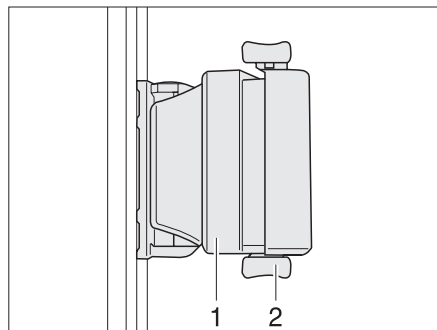

Fig. 24 Sliding window with pressure lock
- ▶ Press the lock (Fig. 24,2) upwards.
- ▶ Press handle (Fig. 24,1) and push it forward or backward at the same time.